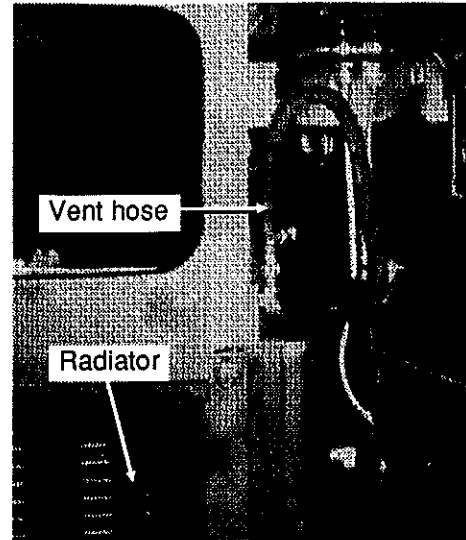

FIG. 3
13. Disconnect the radiator vent hose located in the upper section of the radiator (see fig. 3).